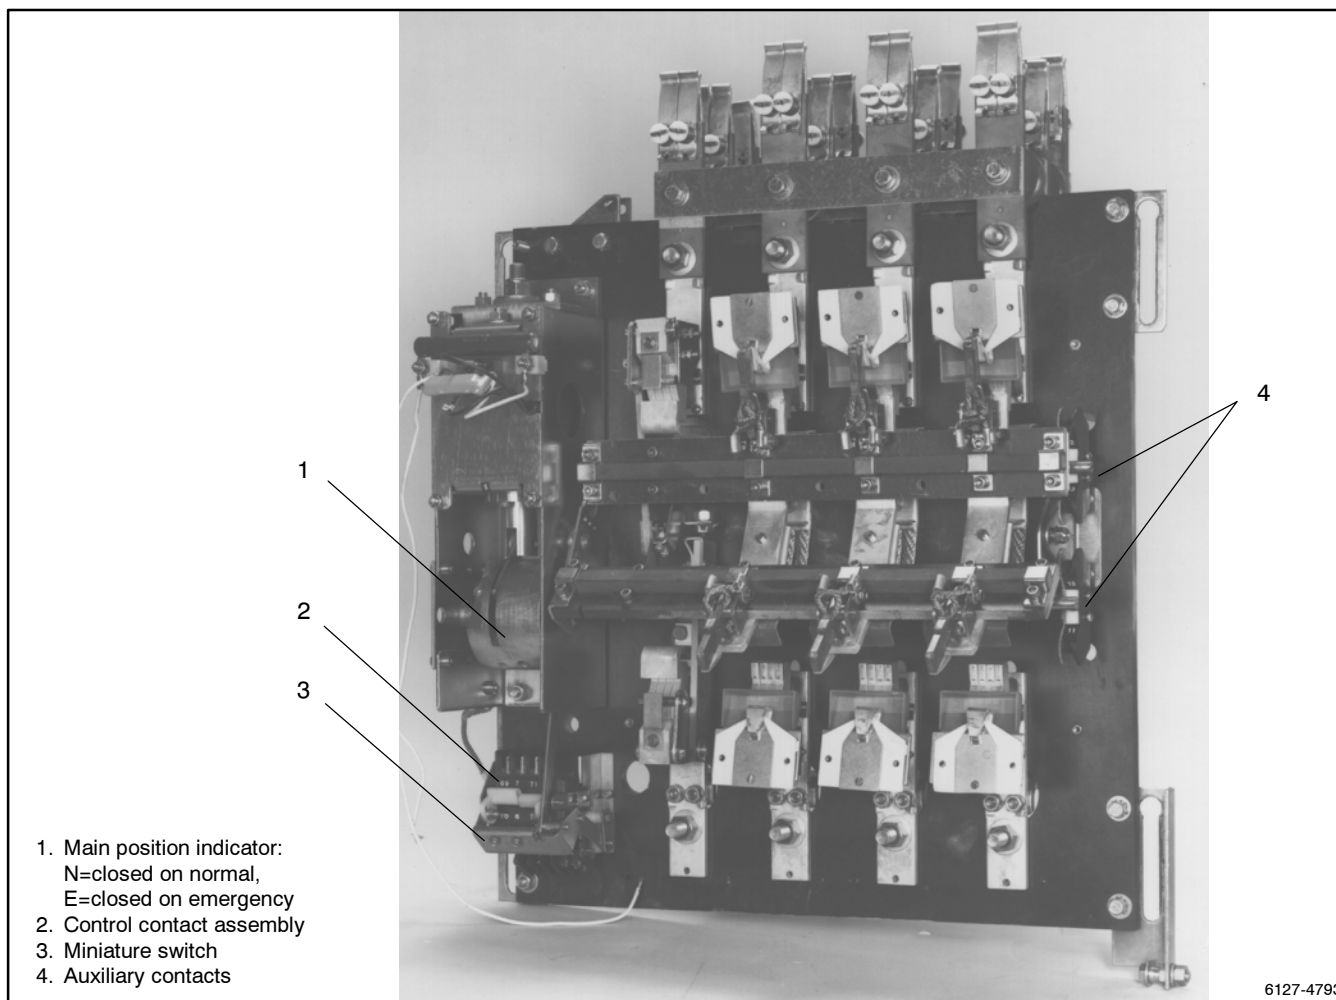

Figure 9-16 Transfer Switch with Barriers Removed
2. Locate the TS control contact assembly; see Figure 9-16. The control contacts are mounted on a metal bracket below the solenoid frame, and are connected with a drive link to the operator weight. There are other auxiliary microswitches inside, underneath the bracket, which are not part of this control circuitry.